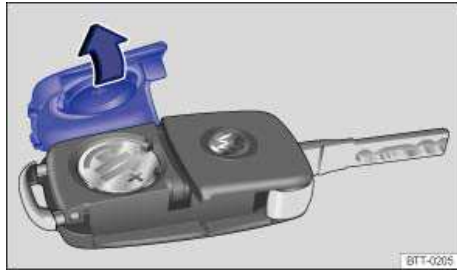

Fig. 17 Remote control vehicle key: Open battery compartment cover.
The battery is on the back of the remote control vehicle key under a cover ⇒ fig. 17.
- Position the cover as shown ⇒ fig. 17 and press it down (opposite to direction of the arrow) until you hear it click into place.